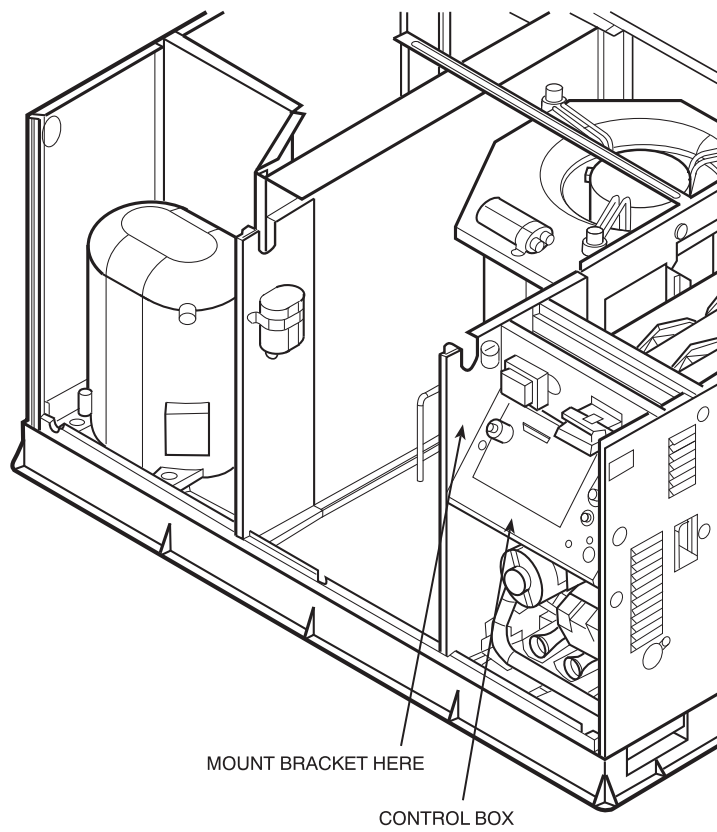

Fig. 1 - Thermistor Mounting Bracket Location (Gas Unit Shown)
3. Using the no. 8 screw provided in kit, attach the thermistor mounting bracket to the left side of the unit control box. See Fig. 1.